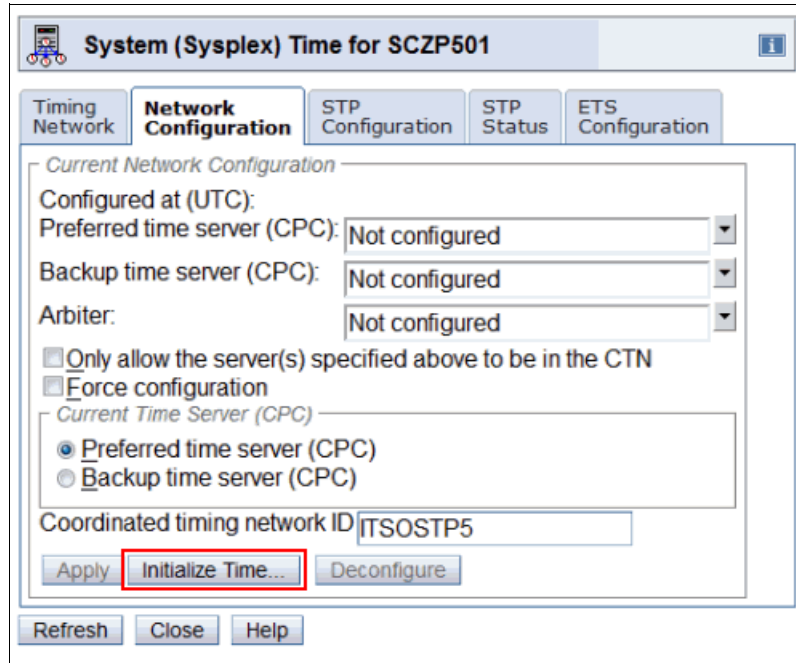

Figure 9-38 System (Sysplex) Time: Initialize Time on Network configuration
- Click the **Network Configuration** tab on the System (Sysplex) Time panel, and then click **Initialize Time** (Figure 9-38 on page 532).